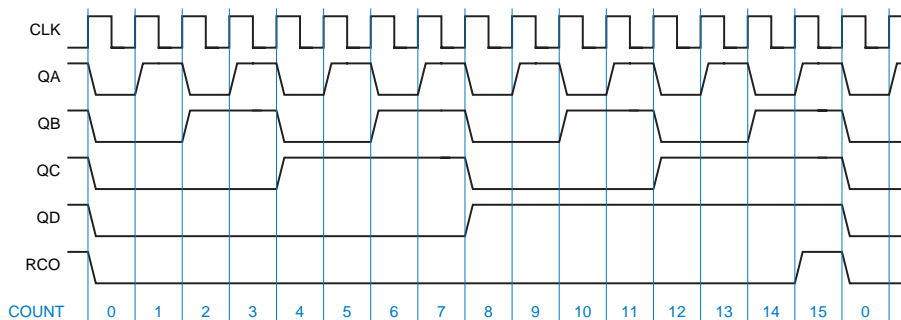

Figure 26: Clock and output waveforms for a free-running divide-by-16 counter.
- Fig. 26 shows resulting output waveforms for a free-running '163